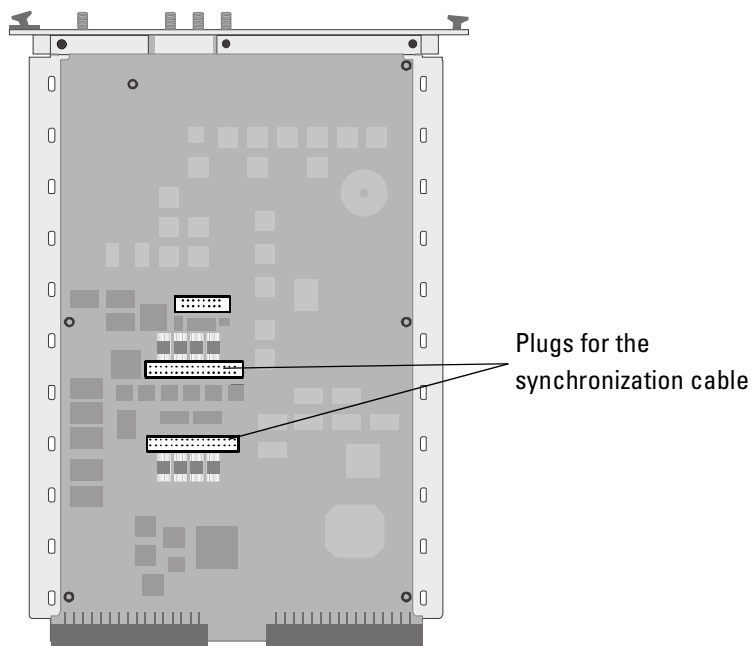

Figure 17 Plugging the Synchronization Cable into the Expander Frame
- 3 Plug the synchronization cable into either one of the corresponding plugs in the clock module, as shown in *Figure 17*. It does not matter which one you use.